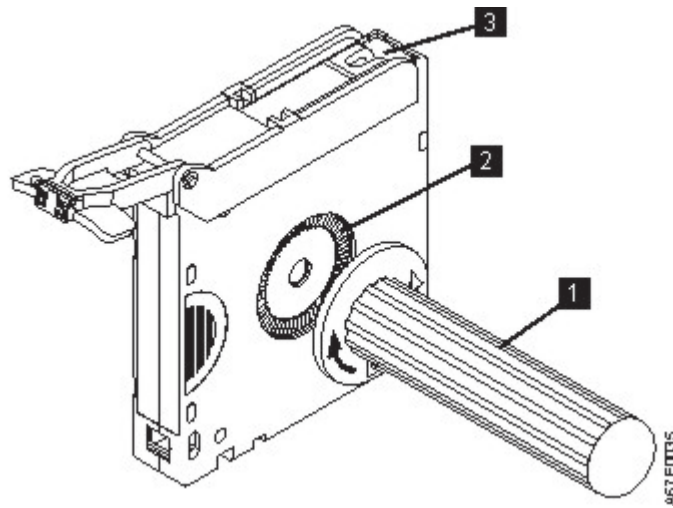

Figure 98. Winding the tape out of the cartridge
2. To find the end of the tape inside the cartridge, attach the cartridge manual rewind tool (1 in Figure 98 on page 170) to the cartridge's hub (2) by fitting the tool's teeth between the teeth of the hub. Turn the tool clockwise until you see the end of the tape inside the cartridge. Then, slowly turn the rewind tool counterclockwise to bring the tape edge toward the cartridge door (3).